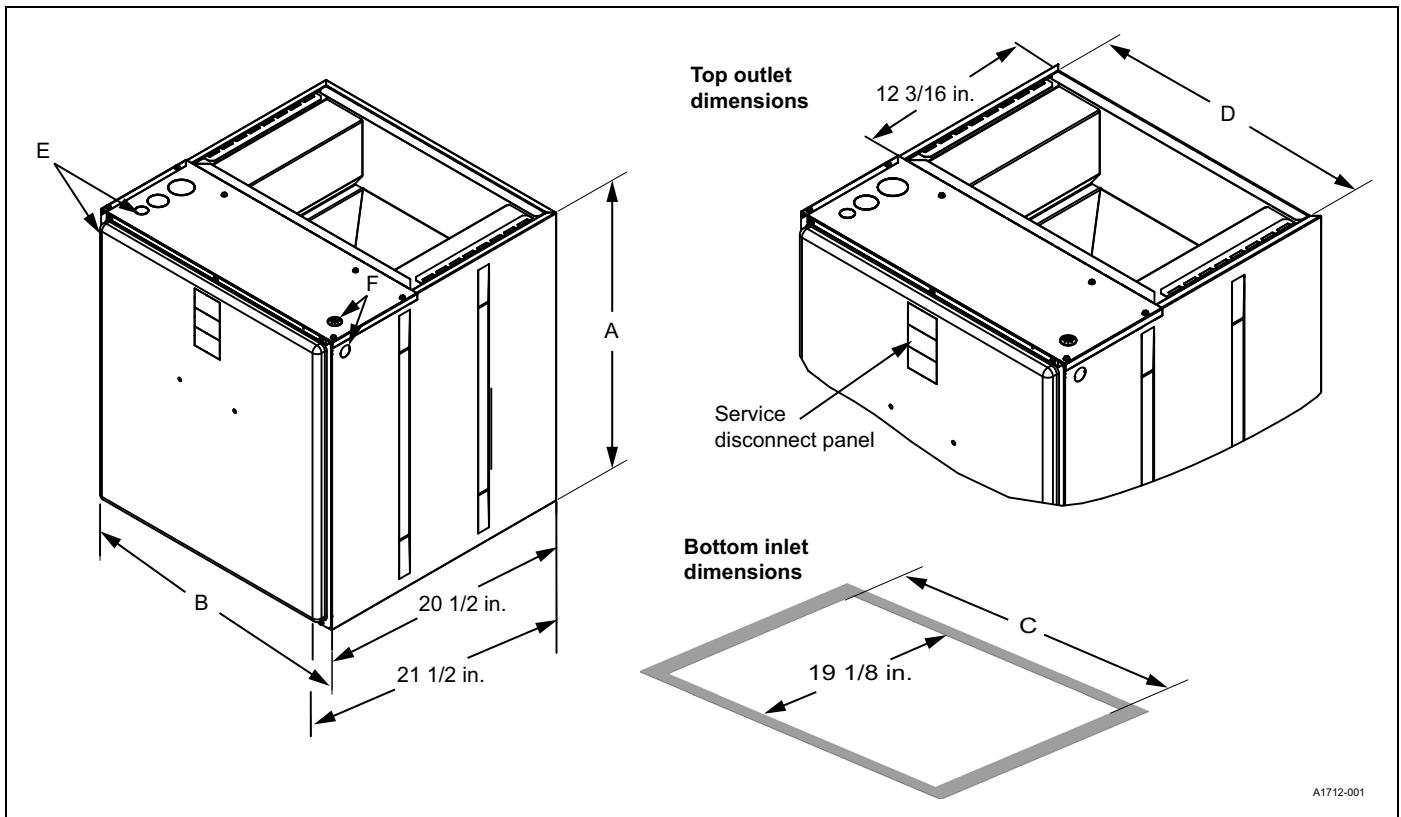

Figure 2: Dimensions and duct connection dimensions
7. The unit rating plate displays the air handler model number. The unit dimensions for the supply air plenum are provided in **Figure 2** and **Table 1**. Always install the plenum according to the instructions.